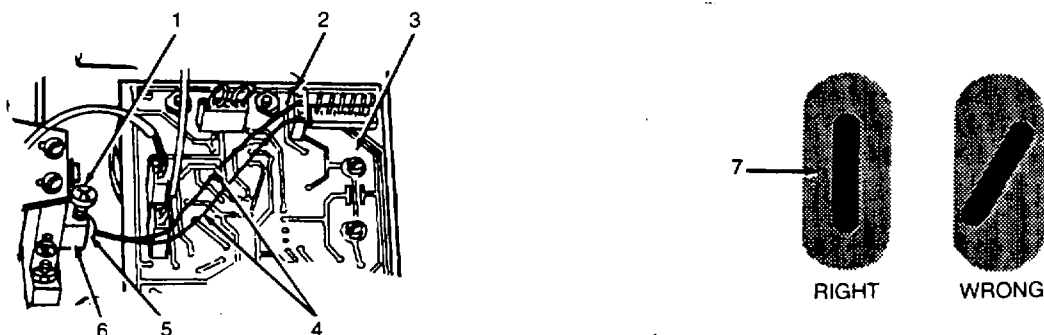

Figure 4-2. Adjusting Lamp.
- (1) Disconnect the lamp cable(4, fig. 4-2) from the amplifier board(3) at connection BC4(2).
- (2) Loosen the bulb setscrew(1) in the lamp holder(6) and extract the lamp(5).
- (1) Check bulb alignment by placing a piece of paper in the sample cell well(5, fig. 2-5) on the right hand wall. Turn the on/off toggle switch(12) to ON. Adjust the wavelength dial(8) to 550 nm to bring the bulb filament image into focus on the paper. If the image is dim, turn LIGHT CONTROL knob(10) to intensify light. Proper alignment gives an image of an oval completely enclosing a vertical filament image(7, fig. 4-2).
- (2) If alignment is required, remove front panel (see para 2.6.2.3).
- (3) Adjust the filament image by loosening the set screw(1) and rotating the lamp holder(6).
- (4) Replace front panel and ensure that the unit is properly connected. See para 2.6.2.3.a. for ac operation; see para 2.6.2.3.b. for dc operation.
- (5) Repeat steps (1) thru (4) above if further adjustment is required.